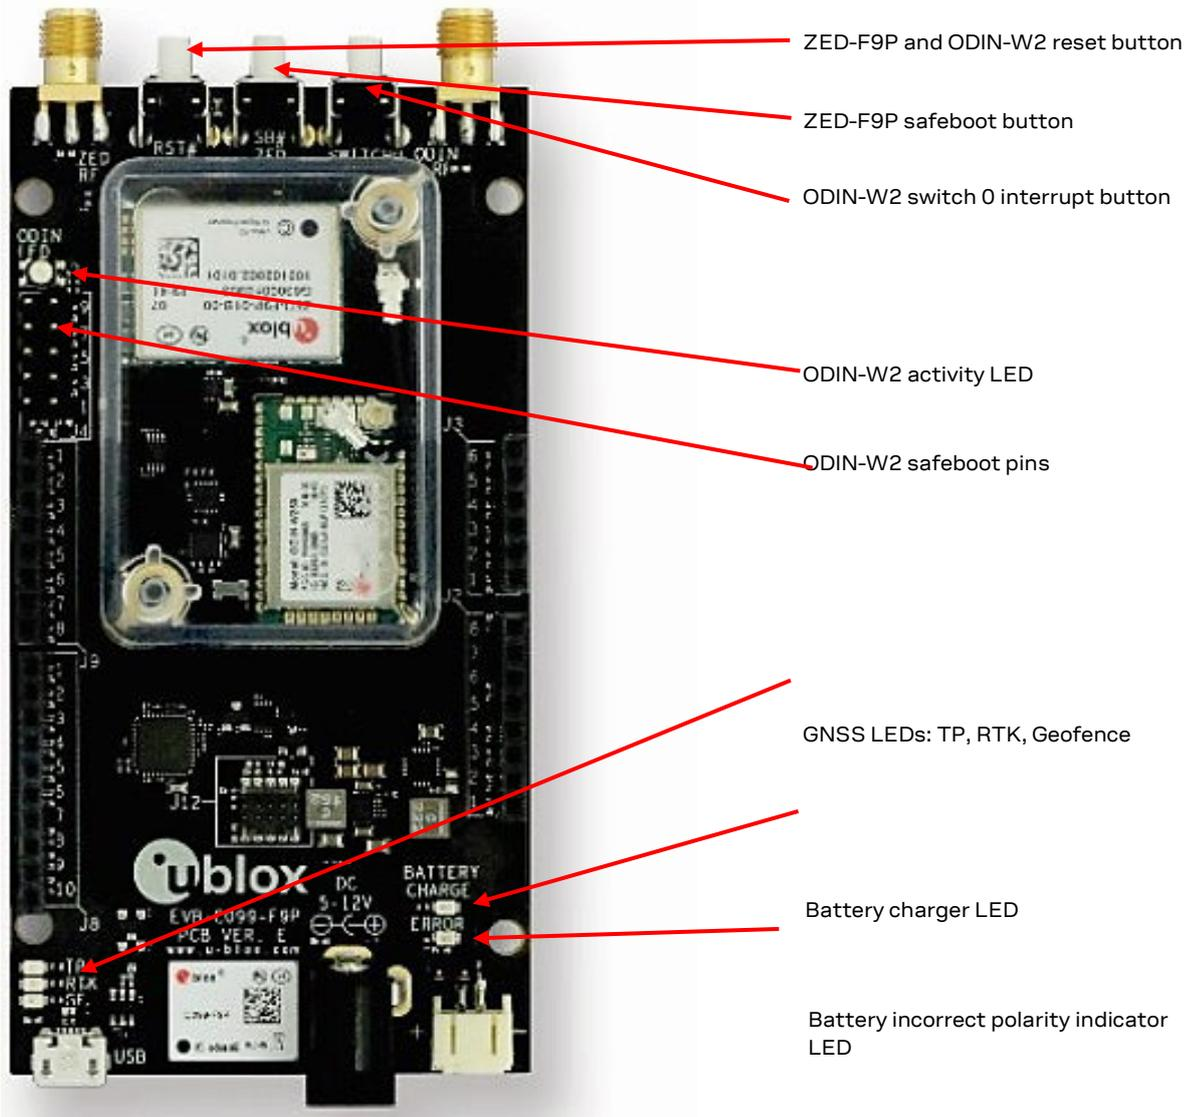

Figure 6: Switches and LEDs
- Switches and LEDs – Figure 6
For use-case scenarios where non-wireless data link is needed the ODIN-W2 can be disabled. In order to disable the ODIN-W2, connect the safeboot jumper which forces the ODIN-W2 into safeboot mode during the device start-up. See Figure 6 to locate the safeboot pins.